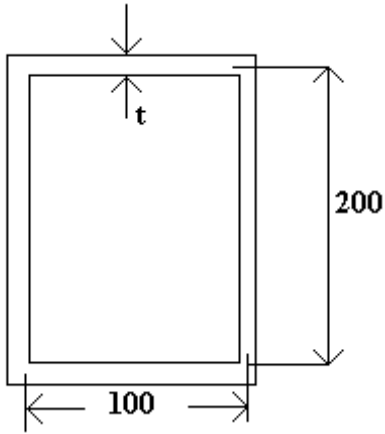

Figure 2:
5. Box beam of uniform thickness  $t = 3\text{mm}$  is subjected to a shear force of 20kN. Determine the variation of shear flow through out the cross-section. Shown in figure 2. [16]